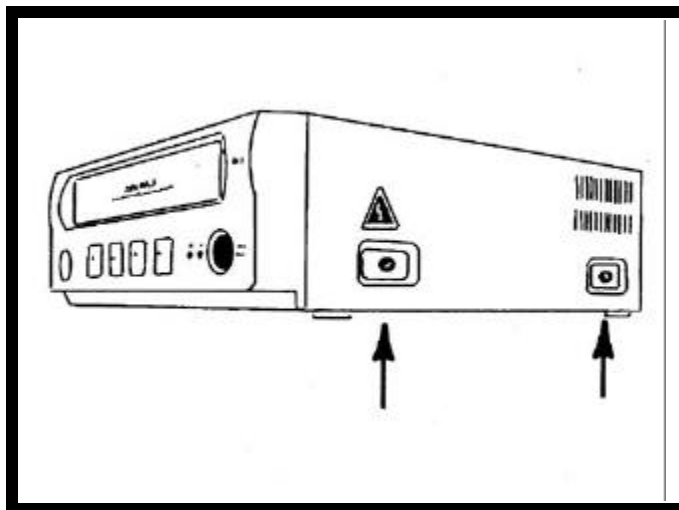

FIGURE 4
4. Remove and discard (4) four screws from the side of VCP. Partially install (4) four #8 x 3/4" screws (item 2 pg 2). See Figure 4.